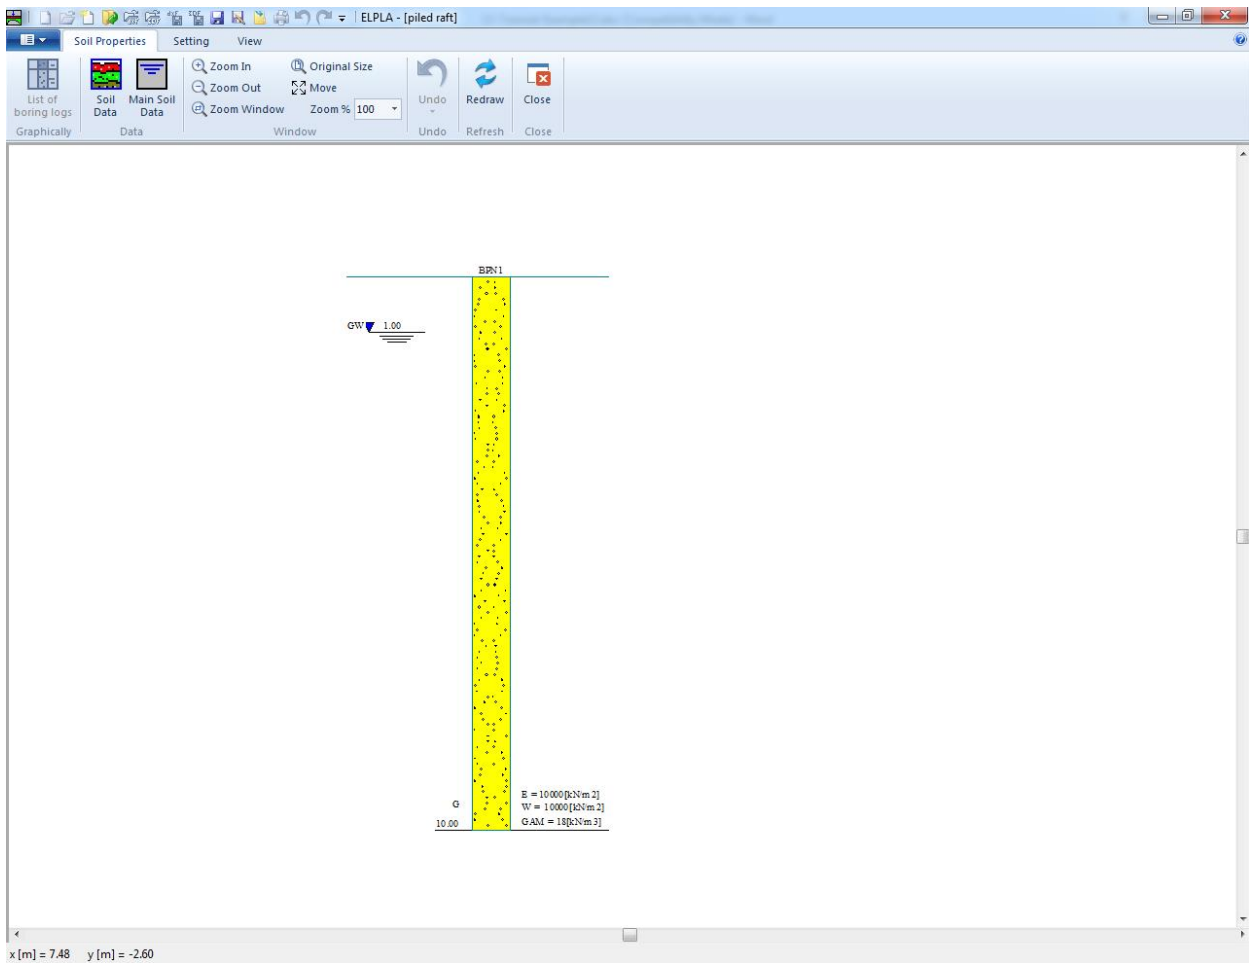
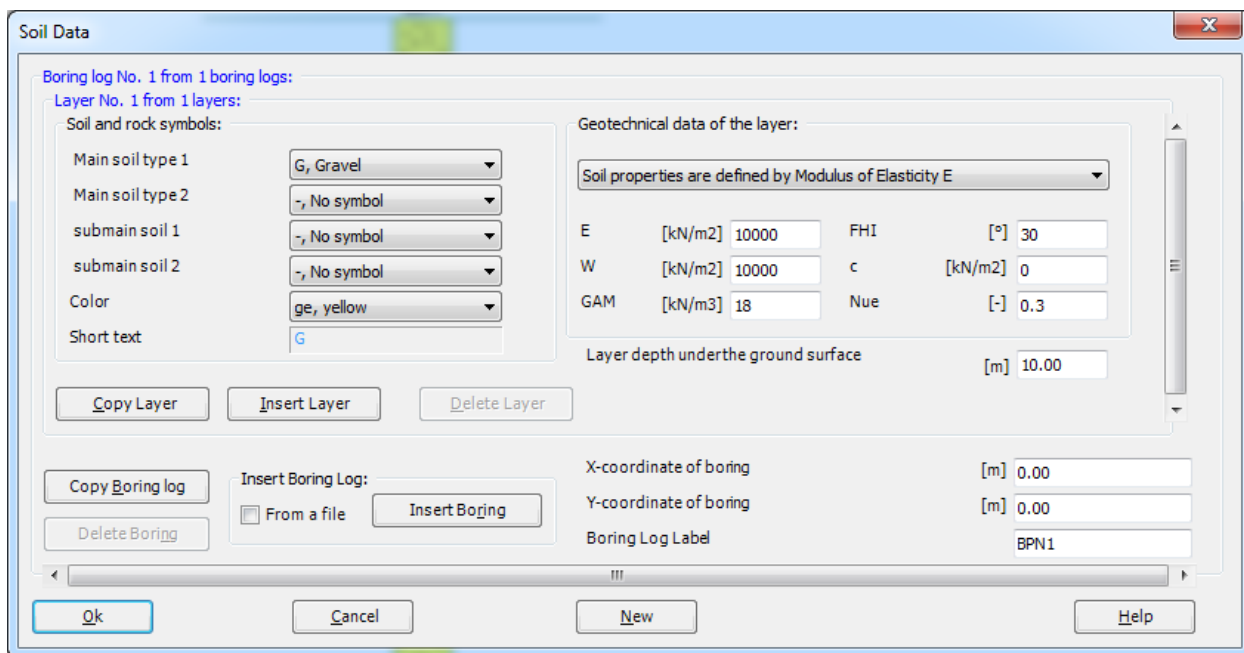

Figure 12.19 "Soil Properties" window with a default-boring log
Figure 12.20 "Soil Data" dialog box with default-boring log data
To define the soil properties, choose "Soil Properties" command from "Data" Tab. The following Window in Figure 12.19 appears with a default-boring log.
- Choose "Soil Data" command from "Soil Properties" Tab in the window of Figure 12.19. The following dialog box in Figure 12.20 appears with default-boring log data.
In the "Geotechnical data of the layer" dialog group box in Figure 12.20, define the geotechnical data of the first soil layer of the boring log as follows:
To define the soil type and color for the first layer, select "U, Silt" as the soil type in "Main soil type 1" combo box in "Soil and rock symbols" dialog group box, Figure 12.20. The color of the silt according to the German Standard DIN 4023 will be automatically created. The user can change this color. In addition, a short text "U" will be automatically created for the silt.
- Click "Copy Layer" button in Figure 12.20. A layer that has the same properties of the first layer will be copied
To enter the main soil data for all layers, choose "Main Soil Data" command from "Soil properties" Tab in Figure 12.19. The following dialog box in Figure 12.21 appears with default main soil data. The main soil data for the current example, which are required to be defined, are the settlement reduction factor α [-] and the groundwater depth under the ground surface G_w [m]. Any other data corresponding to main soil data are not required in this example. Therefore, the user can take these data from the default soil properties.